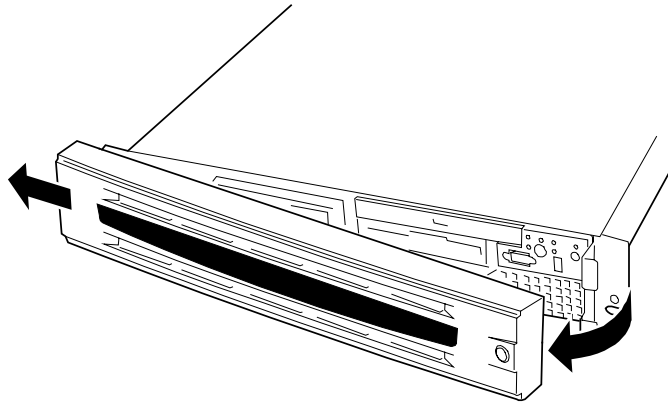

Figure 2-40. Removing the Front Bezel
3. Slide the front bezel to the left a little to remove the tab from the frame and then remove the front bezel from the server. See Figure 2-40.